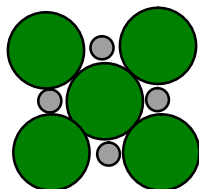

Figure 1
- coller ensemble les boules (figure 1)